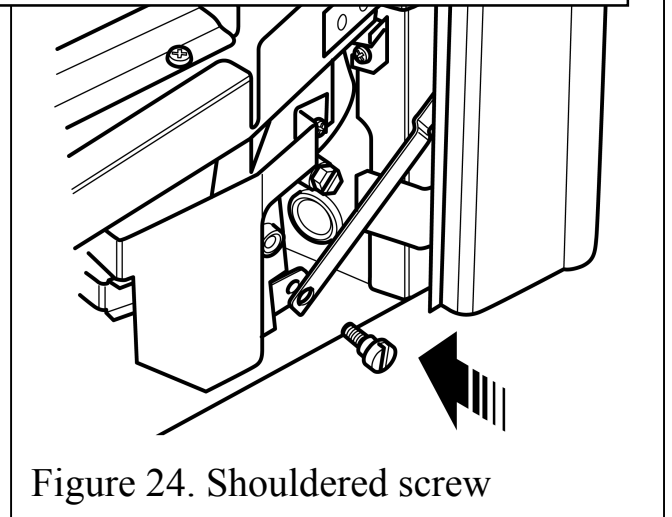

Figure 24. Shouldered screw
3. Connect the control linkage to the control pivot plate using the shouldered screw removed previously (See figure 24).